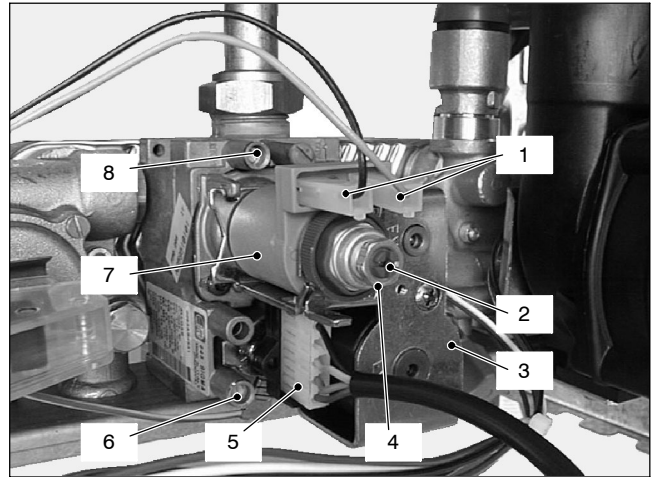

Fig. 2
10.2 Nomenclature of the parts (Fig. 2)
- 2 Open the gas valve inlet pressure test point (6 in Fig. 2) at the valve input, connect a suitable pressure gauge and check the gas pressure of the supply network.
- 4 Open the gas valve outlet pressure test point (8 in Fig. 2) and connect the gauge;
- 7 Rotate the maximum gas pressure adjustment (4 in Fig. 2) until you obtain the required pressure (by rotating clockwise the pressure increases).
- 8 Disconnect one of the two connectors (1 in Fig. 2) or, alternatively, remove the service panel as explained in the section 2.3 of this manual and set the dip–switch selector 1 (see section NO TAG) to the OFF position.
- 9 Rotate the minimum gas pressure adjustment (2 in Fig. 2) until you obtain the required pressure (by rotating clockwise the pressure increases).